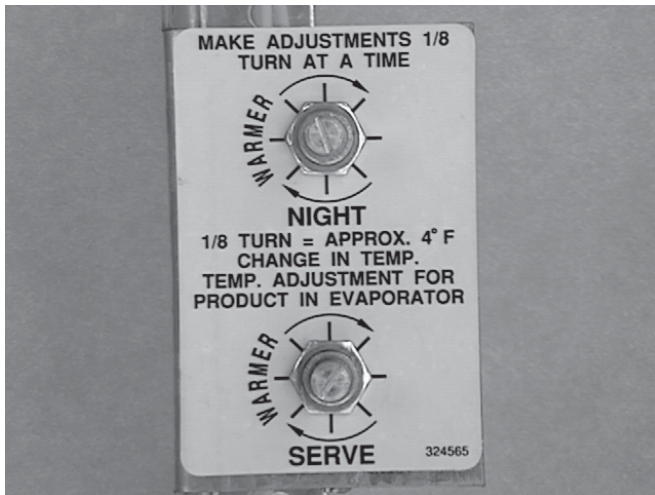

Figure 28. Potentiometer
- B. Use a screw driver to make desired adjustment. A label near the potentiometer will give complete instructions. Figure 28.